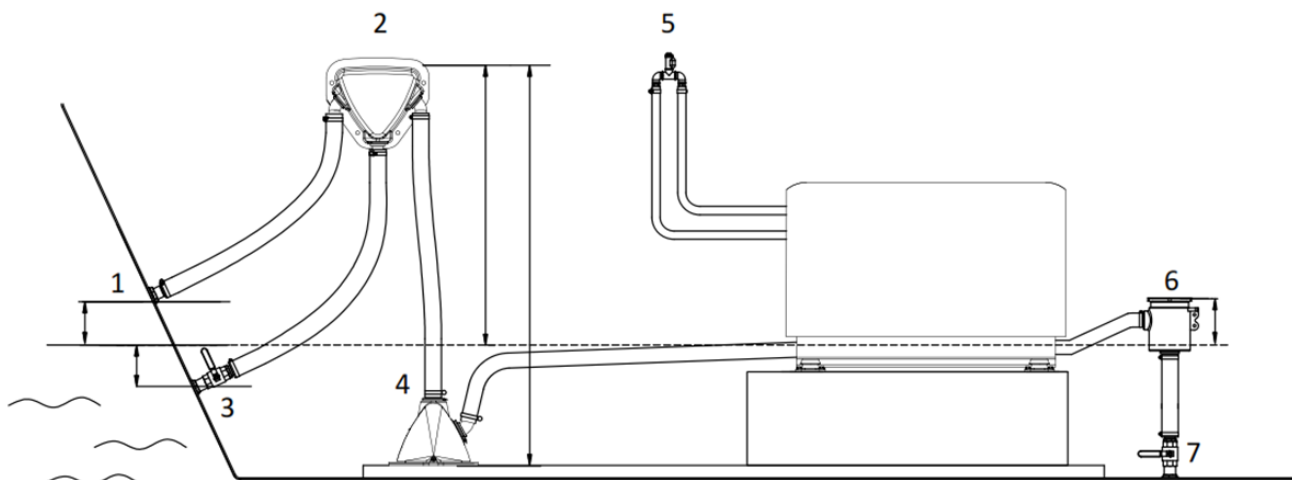

Fig. 6: Internal cooling system
Use an appropriate water strainer with connections of 25.4 mm (1"). Install the water strainer in a well accessible position, 5 cm above the waterline (see fig. 6, ref. 6).
Extend the water hose of the by-pass 60 cm above waterline and install an air vent. Ideally, the air vent should be mounted above the yacht keel centre line (i.e. to minimize the influence of swaying on the water intake). See figure 6, ref. 5.